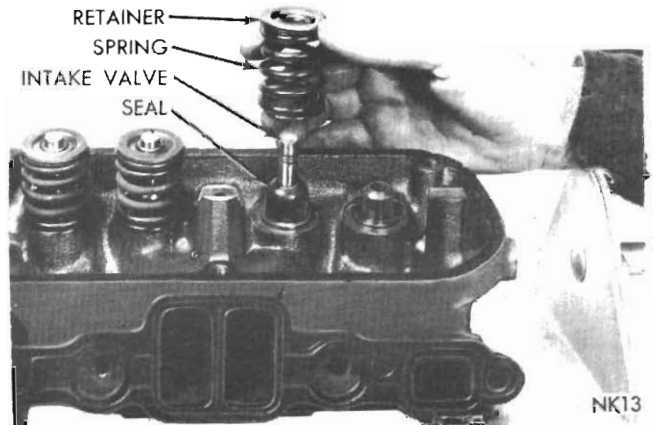

Fig. 11 - Installing valve and cup seals
(3) Install new cup seals on all valve stems and over valve guides (*Fig. 11*). Install valve springs and retainers. Install springs so that closed coils are against cylinder head.